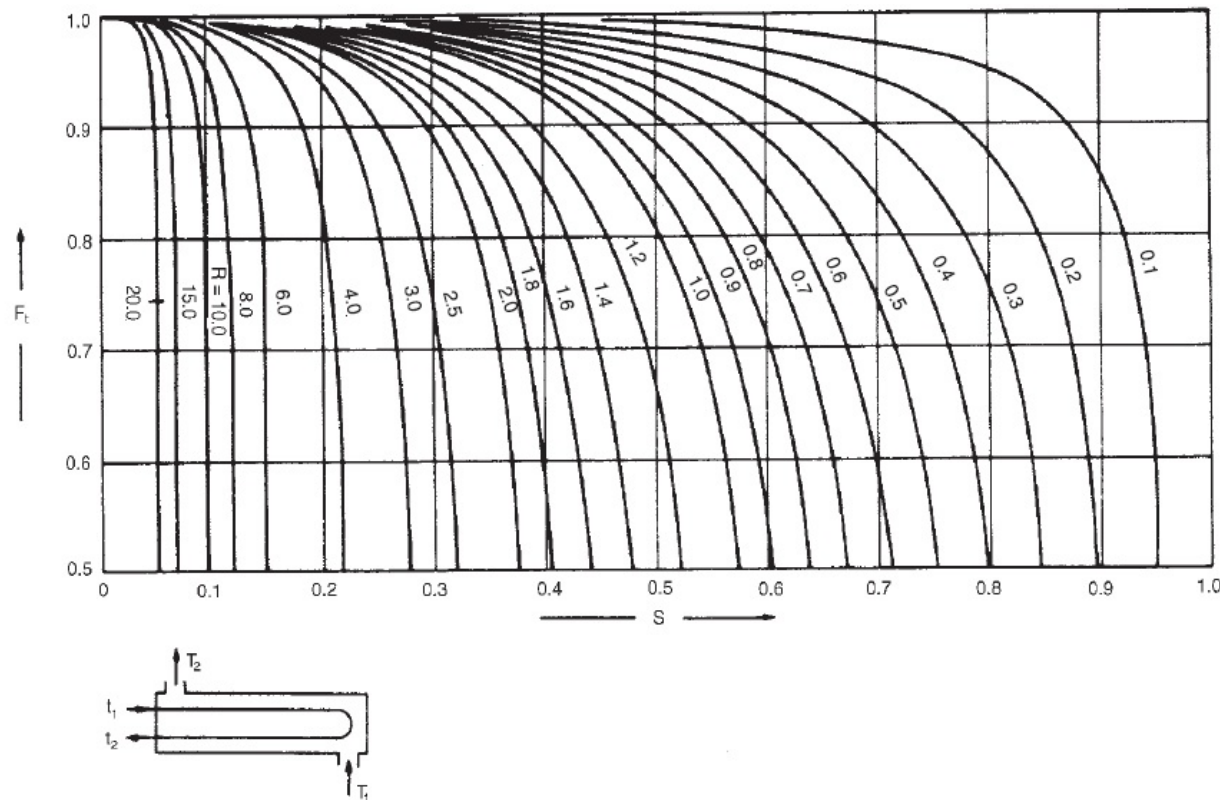

Fig. 4: Temperature correction factor: one shell pass; two or more even tube passes (available in TEMA)
- For a 1 shell : 2 tube pass exchanger, the correction factor is plotted in Fig. 4.
➤ From Fig. 4, the correction factor (F_t) is 0.85.